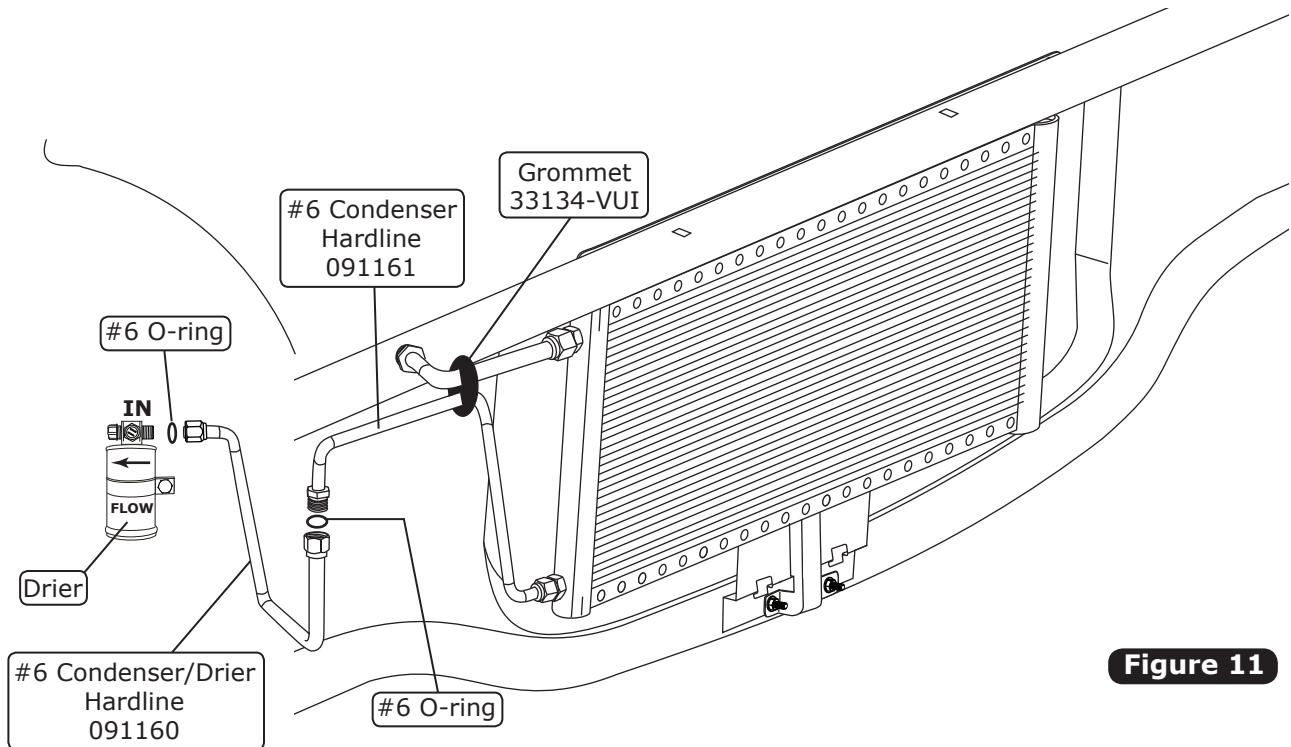

Figure 11
1. Lubricate (2) #6 O-rings (See Figure 9, Page 11), and install the #6 condenser/drier hardline as shown in Figure 11, below.